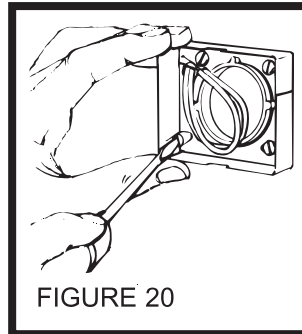

FIGURE 20
2. Refer to Figure 20. For some drywall or panel construction, the plaster frame will extend beyond the finished wall. In this case, remove plaster frame from mounting bracket by removing mounting screws.